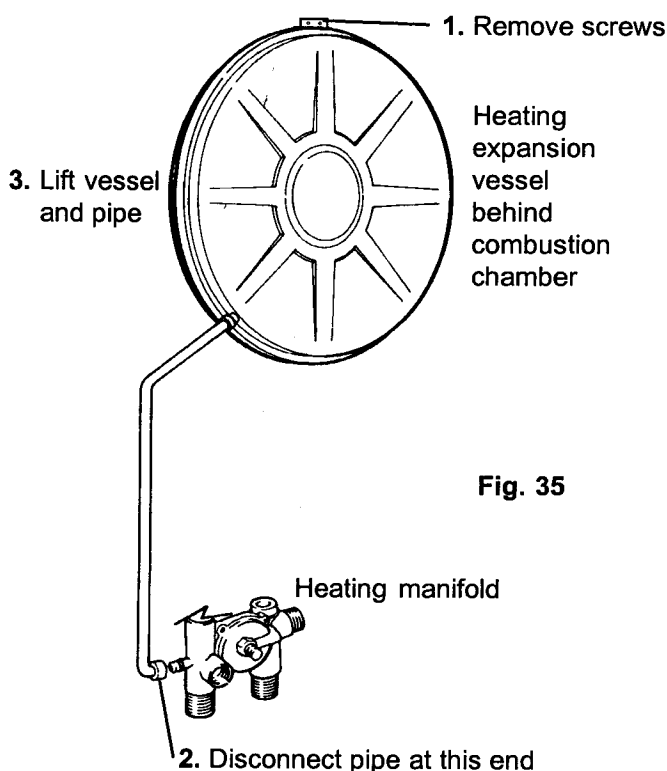

Fig. 35
- 8.16.9 Remove 2 screws securing vessel at top. Disconnect expansion pipe at heating manifold, lift vessel & pipe out of appliance.(fig. 35)
- NOTE:** Fig. 35 shows the expansion vessel from the **14/48 SE**, the expansion vessel in the **20/70 SE** is square in shape and has two securing brackets (top left and top right).